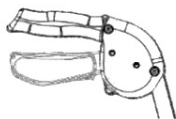

Fig. 5 (unlocked state)
1. Pull the brake handles upwards until they are released as shown in fig. 5.